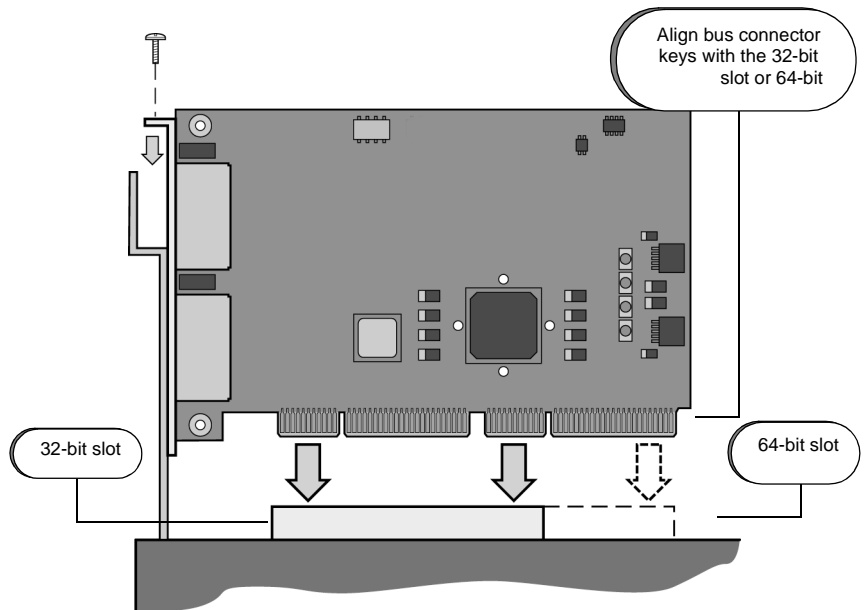

FIGURE 21. Installing PCI-SB Card in 32-bit or 64-bit Slots
3. Align the PCI-SB card's connector with the 32-bit or 64-bit expansion slot and press the card into the slot gently and evenly as shown in Figure 21.